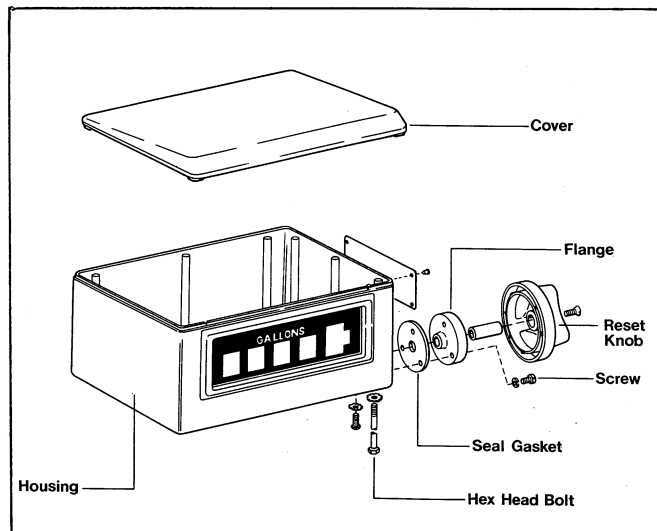

Figure 3.
13. Attach special flange (2) from kit to housing over reset shaft using the three screws removed in Step 3. Use existing seal gasket. See Figure 3.